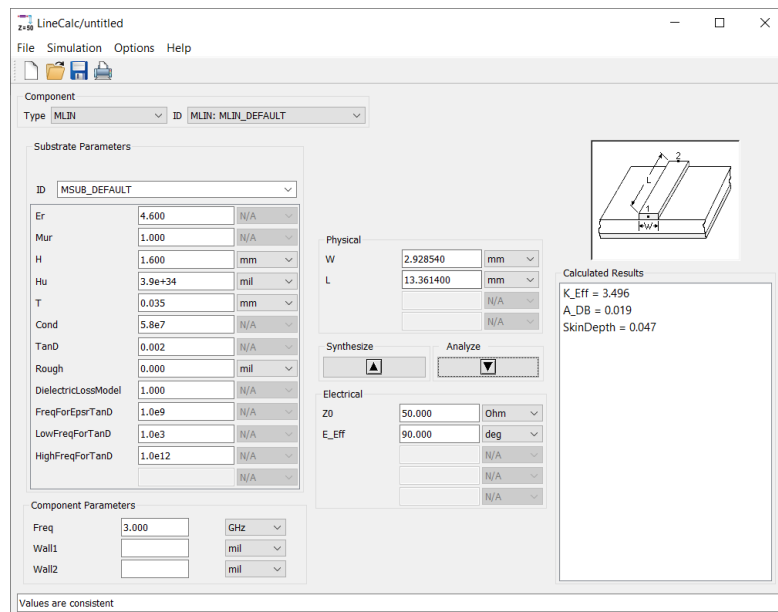

Figure 3. LineCalc results for 50 Ω lines
2. Use LineCalc to determine the length and width of the 50 Ω (Z_0) and 70.7 Ω ($\sqrt{2} Z_0$) lines. The LineCalc windows are shown in Figures 3 and 4.